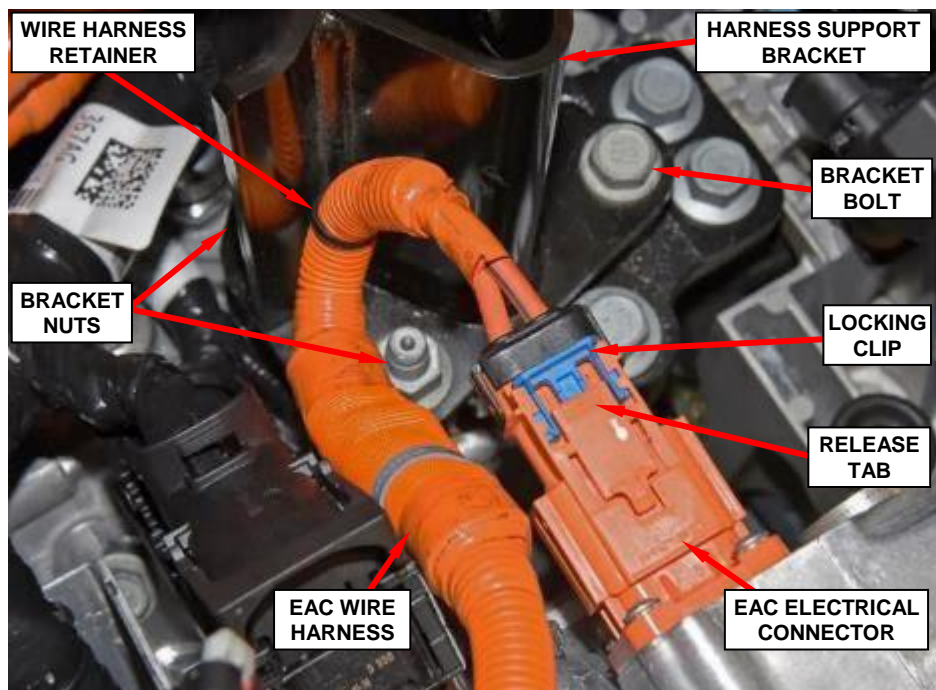

Figure 26 – EAC Electrical Connector and Mount Bracket
49. Disengage the wire harness retainer securing the EAC wire harness to the harness support bracket (Figure 26).
50. Slide the EAC electrical connector locking clip rearward (Figure 26).
51. Depress the EAC electrical connector release tab while pulling the EAC electrical connector rearward to disconnect the EAC electrical connector from the PIM (Figure 26). Reposition the EAC wire harness to a safe location.
52. Remove and save the two nuts and one bolt securing the harness support bracket, then remove and save the bracket (Figure 26).
12. Install the harness support bracket to the transmission mount with two nuts and one bolt. Tighten the bolt and nuts to 115 N·m (85 Ft. Lbs.) (Figure 26).
13. Connect the Electric Air Conditioning (EAC) wire harness electrical connector to the PIM (Figure 26).
14. Slide the EAC electrical connector locking clip forward to lock the EAC electrical connector to the PIM (Figure 26).
15. Position the wire harness and engage the wire harness retainer securing the EAC wire harness to the transmission mount bracket (Figure 26).